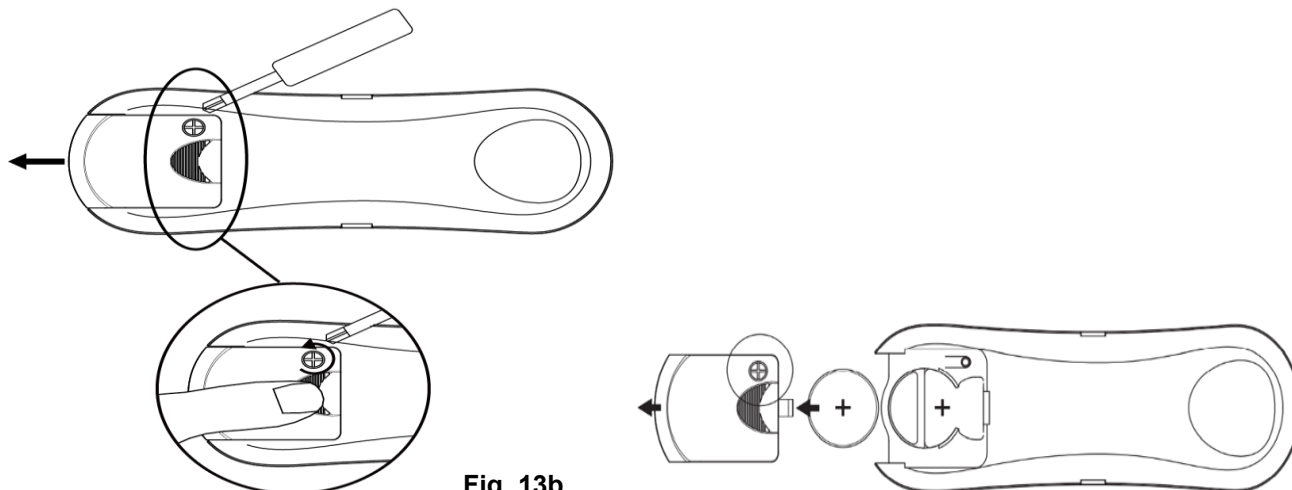

Fig. 13b
2. Slide to remove the battery compartment cover from the back of the remote, to access the battery (Fig. 13b)